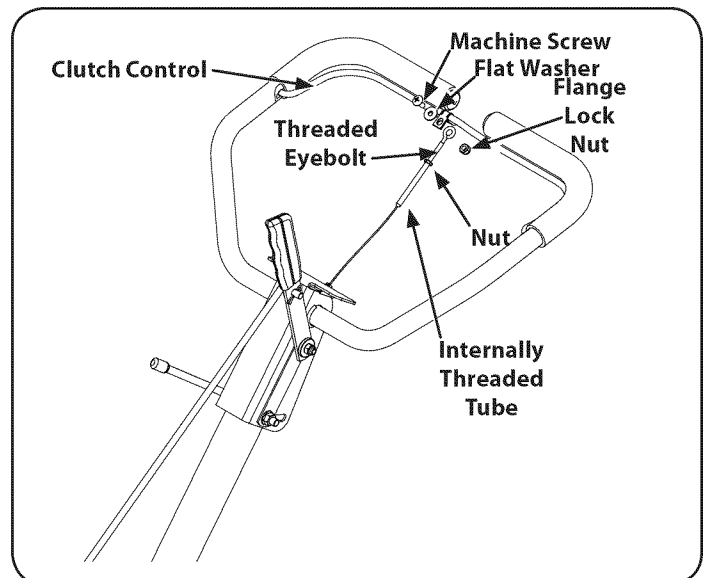

Figure 7
4. Remove the machine screw, flange lock nut and two flat washers from the clutch bail. See Figure 7.
6. Thread the eyebolt and nut removed earlier into the internally threaded tube at the end of the cable. The thread engagement should be about $3/4$ ". Tighten the nut against the tube at the end of the cable. See Figure 7.